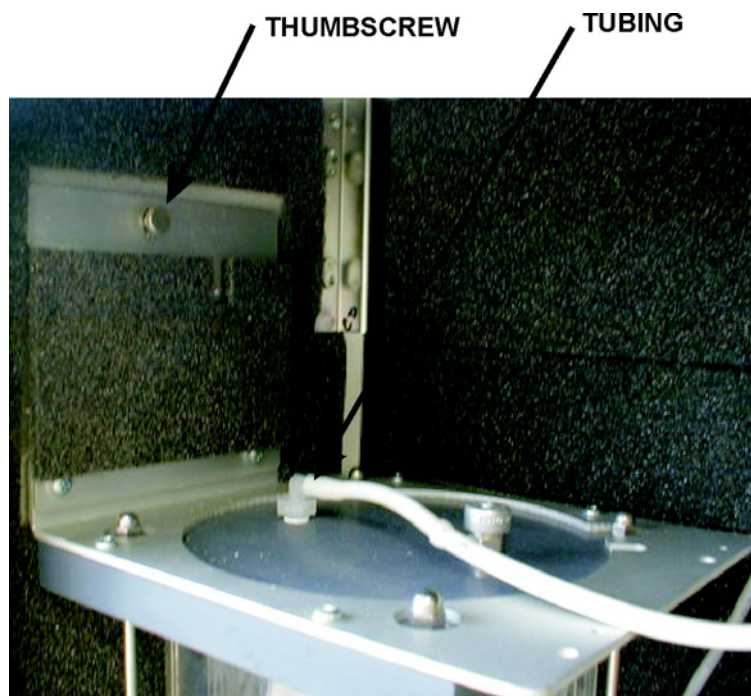

Figure 6-2
7. Remove the thumbscrew securing the top of the ballast assembly to the rear of the instrument, Figure 6-2, page 6-13.